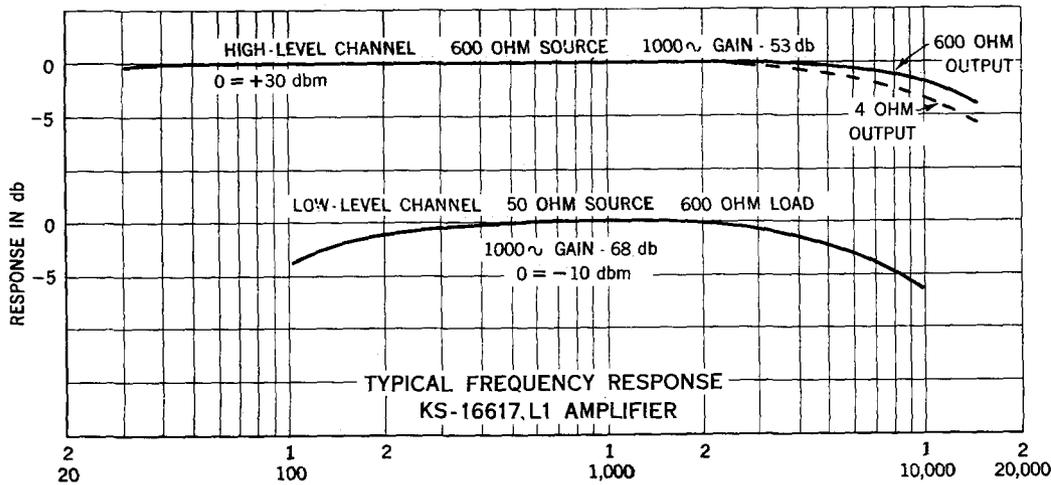

Fig. 3 - Frequency Response
See Fig. 3.
6.01 Fig. 3 shows the frequency response of the KS-16617, L1 Amplifier. The figure shows the characteristics of both the high-level and low-level channels.